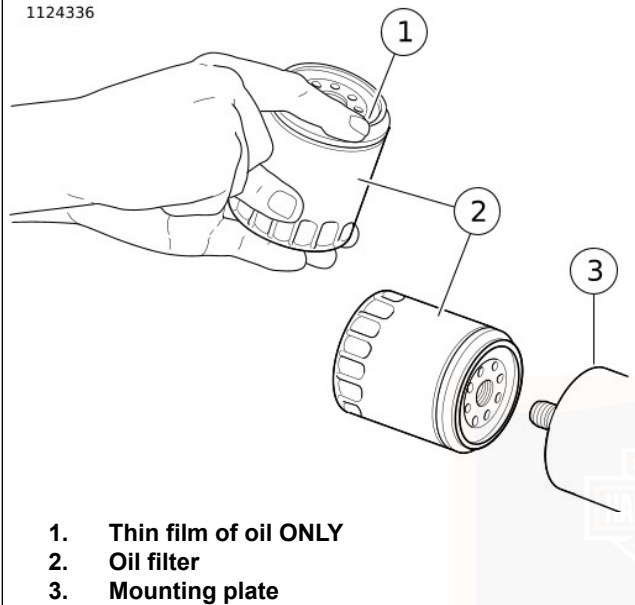

Figure 49. Applying Thin Oil Film
7. See Figure 49. Install **new** oil filter.